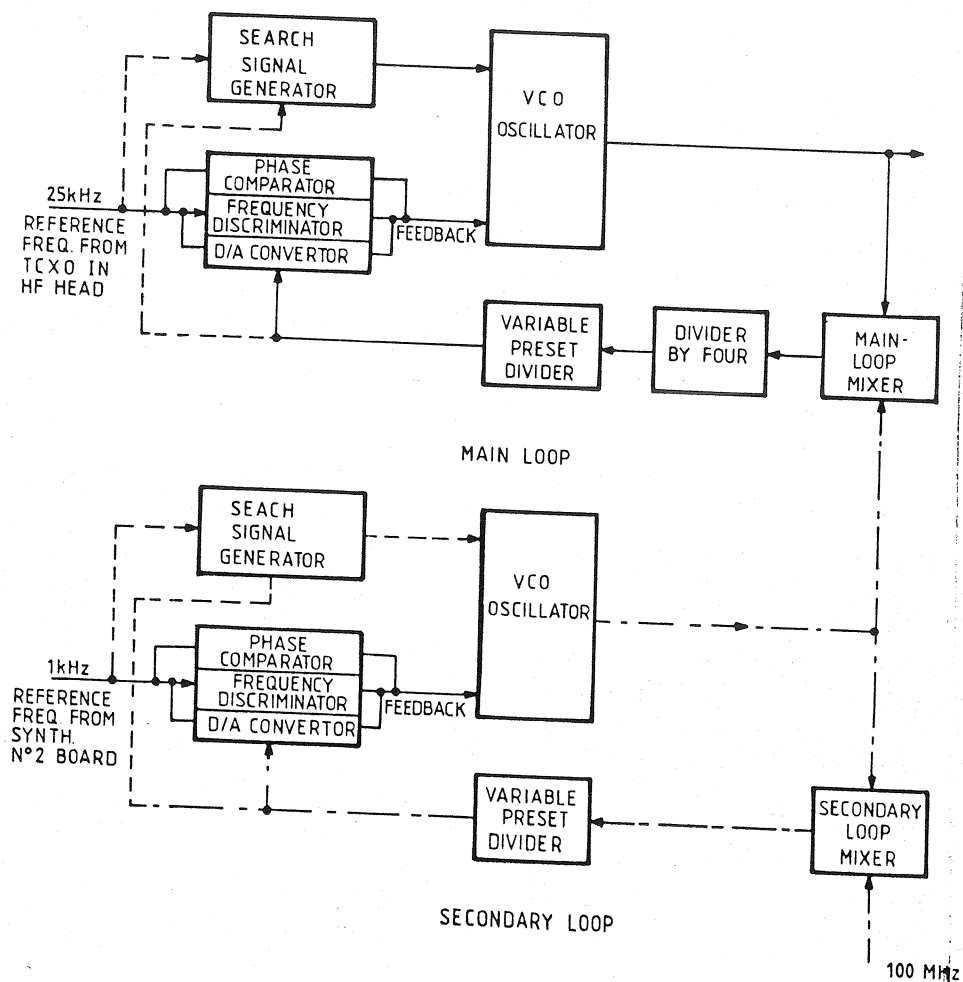

Fig. 3A.6
- 38 The following functional description of the synthesiser makes reference to Figure 3A.6.